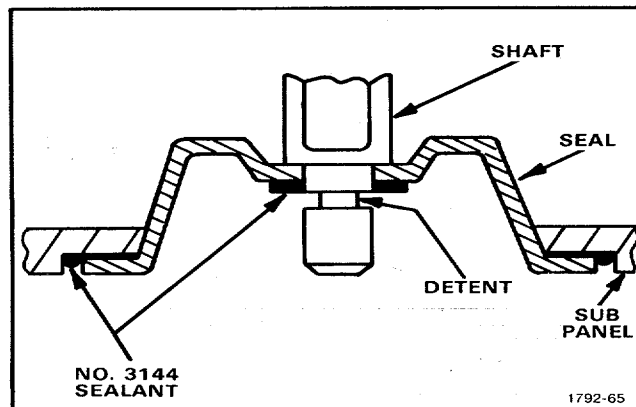

Figure 5-11. Detail of Pushbuttons and their shafts.
**11. Install pushbuttons and their shaft assemblies (see Fig. 5-11)**
2. Insert the shafts into the pushbutton seals. See Fig. 5-11.